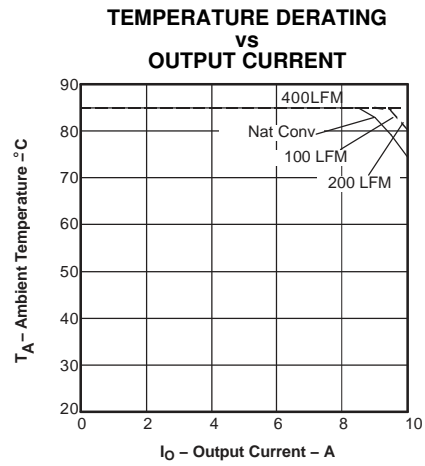

Figure 4.
- (2) SOA graphs represent the conditions at which internal components are at or below the manufacturer's maximum operating temperatures. Derating limits apply to modules soldered directly to a 4 in. × 4 in., double-sided PCB with 1 oz copper. For surface mount products (AS and AZ suffix), multiple vias (plated through holes) are required to add thermal paths around the power pins. Please refer to the mechanical specification for more information. Applies to Figure 4.
- (3) The peak-to-peak output ripple voltage is measure with an external 10 μF ceramic capacitor on the output.